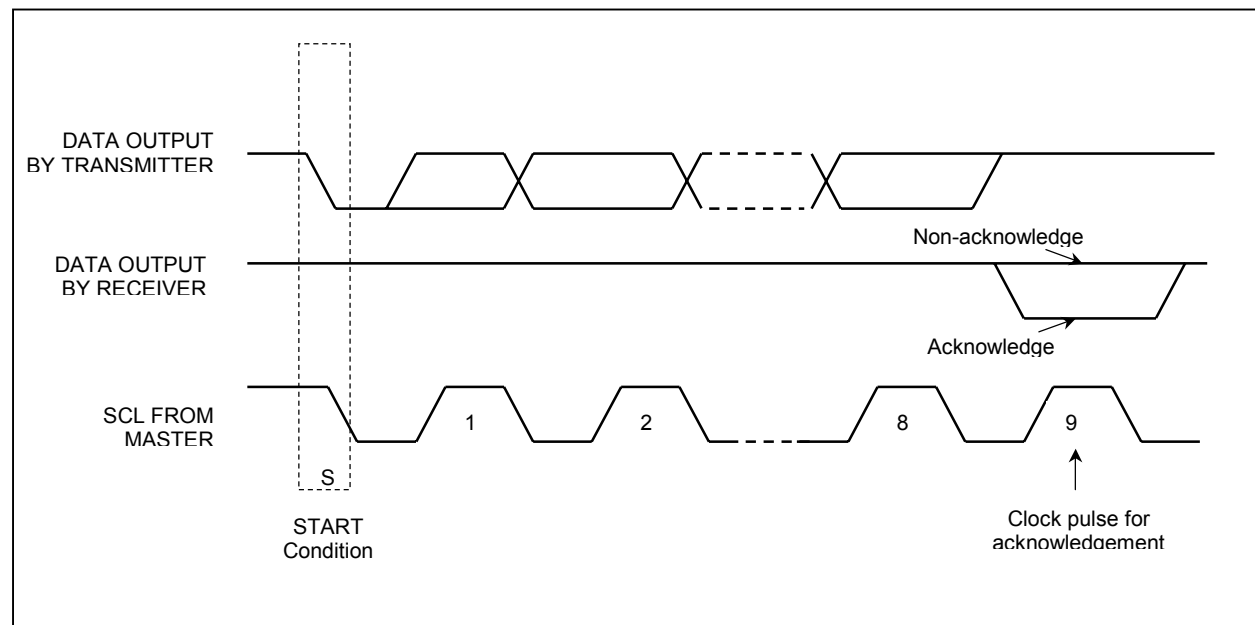

Figure 9 Definition of the acknowledgement condition
- 4) An acknowledgement signal will be generated after receiving one byte of data, including the slave address and the R/W bit. Please refer to the figure 9 on page 22 for the graphical representation of the acknowledge signal. The acknowledge bit is defined as the SDA line is pulled down during the high period of the acknowledgement related clock pulse.
- 4) An acknowledgement signal will be generated after sending one byte of data, including the slave address and the $\overline{R/W}$ bit. Please refer to the figure 9 on page 22 for the graphical representation of the acknowledge signal.